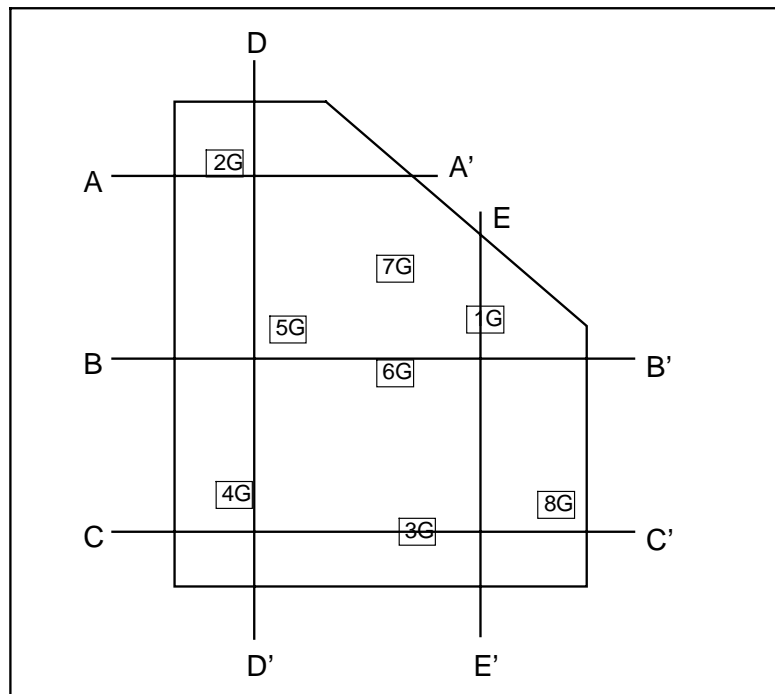

Figure 3.4 Location of Cross Sections.
4. Cut a cross section through the solids by clicking on one side of the solids, moving the cursor to the other side of the solids, and double-clicking. Cut the solid through the line A-A' as shown in Figure 3.4. Repeat this process to create cross sections at the lines B-B', C-C', D-D', and E-E'.